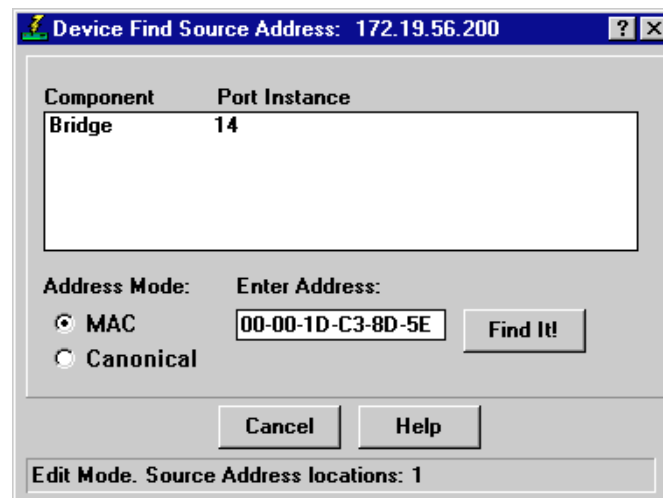

Figure 2-10. Device Find Source Address Window
2. Click on **Device Find Source Address**. The Device Find Source Address window, as shown in Figure 2-10, opens.
2. Click to select **Device Find Source Address**. The Device Find Source Address window, as shown in Figure 2-10, opens.